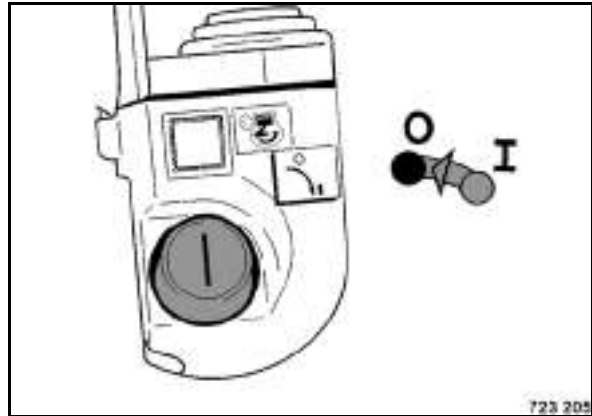

Fig. 73
- Switch off the transmitter (Fig. 73) with the ignition key.